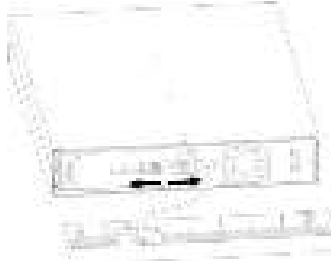

Figure 22: Disconnecting the battery connector
2. Disconnect the battery connector (see Figure 22)